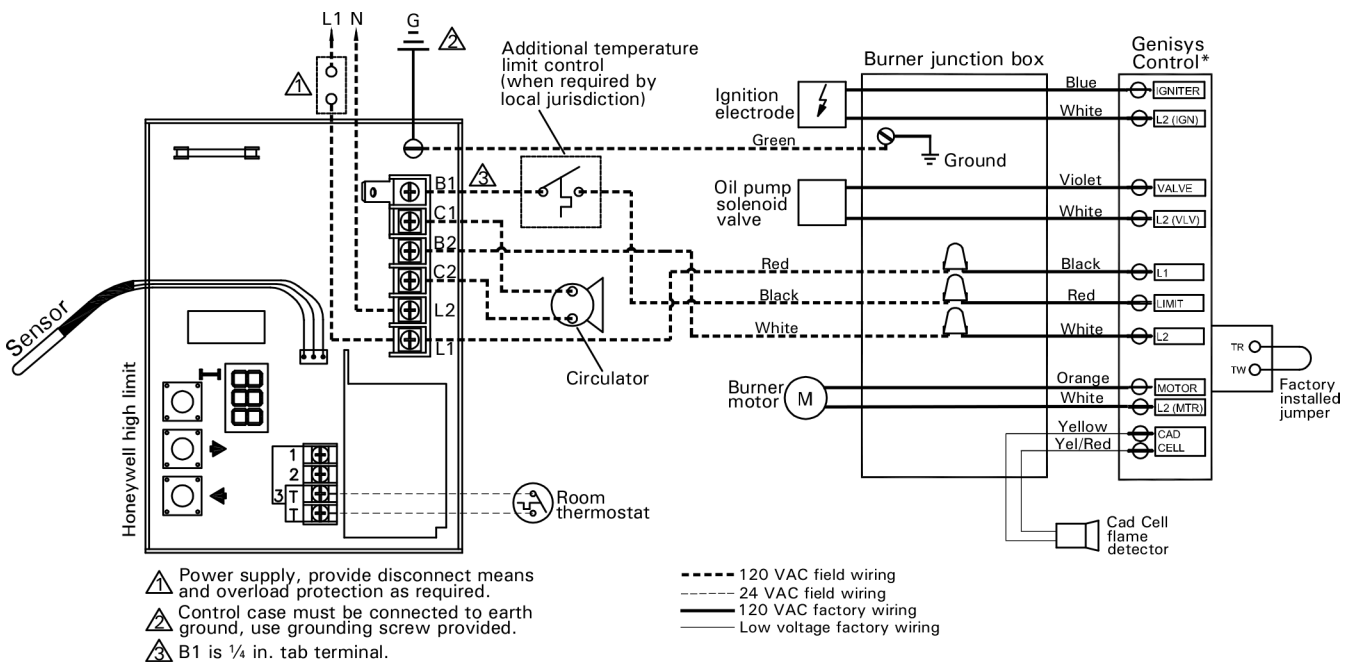

Fig. 5
1. Run the #41 plug-in connector cable of the Vitotronic control down behind the front panel of the boiler and out through the bottom. (Fig. 5)
2. Connect the female #41 plug of the burner to the male #41 plug of the Vitotronic control. (Fig. 5)